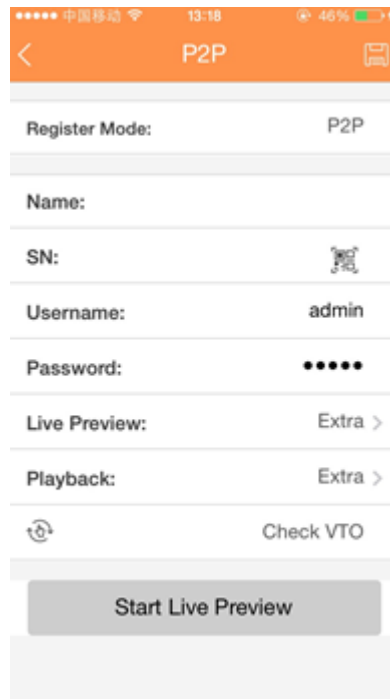

Figure 4-18
- Step 4 Tap Device manager button, you can use several modes (P2P/DDNS/IP and etc.) to add the device. Click  to save current setup. Tap Start Live preview to view all-channel video from the connected device. See Figure 4-18.